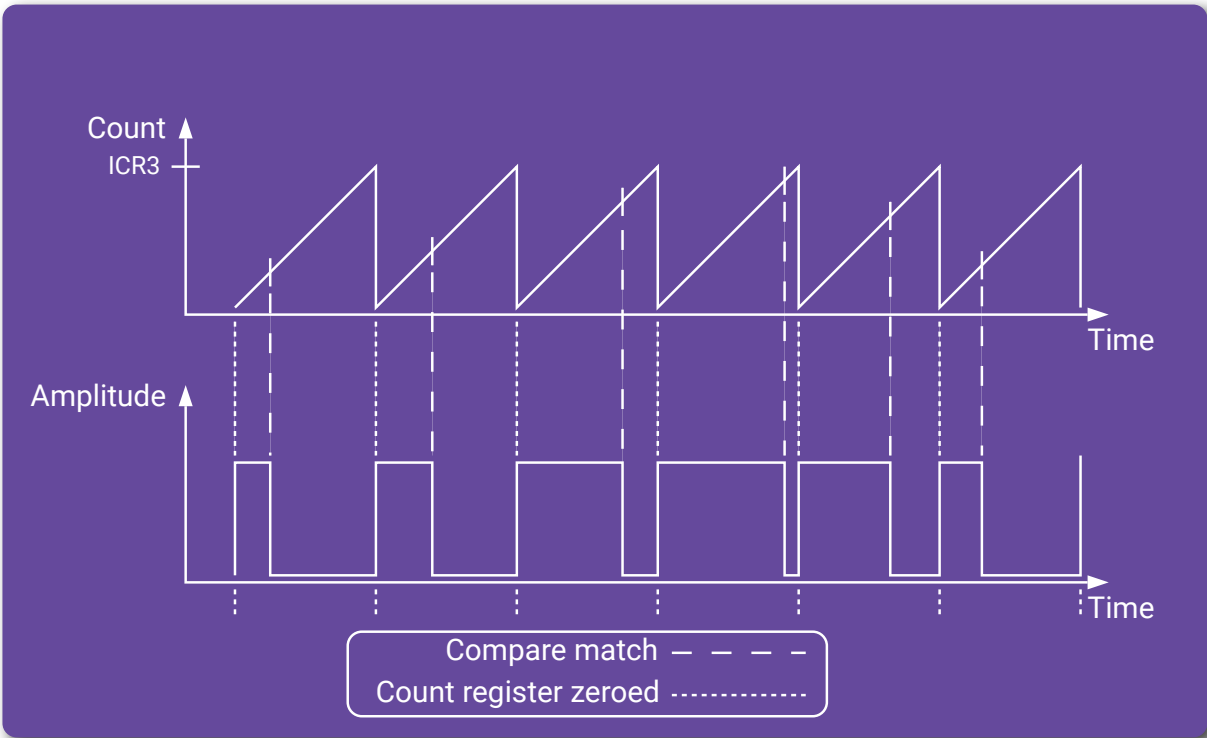

Figure 3.2: Pulse width modulation with an AVR timer/counter.
There are several varieties of a PWM signal that can be generated with an AVR timer/counter. Here is a description on how to initialize timer/counter 3 to generate “fast PWM” with ICR3 as top. For that purpose an output compare register, OCR3A or OCR3B, is used together with the counter value register. The desired behaviour is as follows. When the counter value register is zero, the selected OCR3 pin is set to high. As the timer increments the value, it is constantly compared with the value of the output compare register. When they match, the OCR3 pin is cleared (set to low). When the counter value is the same as the value in register ICR3 the timer/counter overflows and the output pin is set to high. After this the procedure starts again. See Figure 3.2 and 3.3.
- Select Fast PWM with `ICR3` as top by setting the Waveform Generation Mode Bits `WGM30`, `WGM31`, `WGM32` and `WGM33` accordingly. See Table 17-11 on page 188-189 in the data sheet. Having `ICR3` as top means that at this value the timer will restart, that is, clearing the counter register and start from zero again. See Figure 3.2. The Waveform Generation Mode Bits can be found in control register A and B.